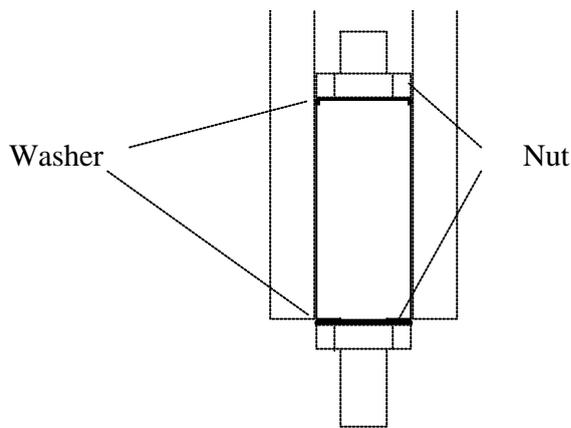

Fig 7
9. Fit a 12mm washer and nut to each end of the screwed rod either side of the "foot piece" on each leg, fig 7. If you feel like doing a bit more filing, you can sharpen the very end of the rod to a near point to make a proper foot spike. Do not make the spike too sharp as this will make the foot unstable.